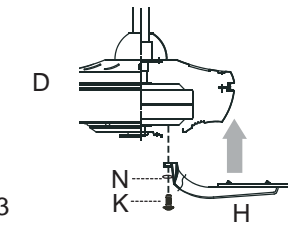

Fig. 3
3. Insert only one motor screw (K), with lock washer (N), through blade arm (H) to attach blade arm (H) to motor and partially tighten motor screw (K). [Fig. 3] Repeat with remaining blade arms (H).